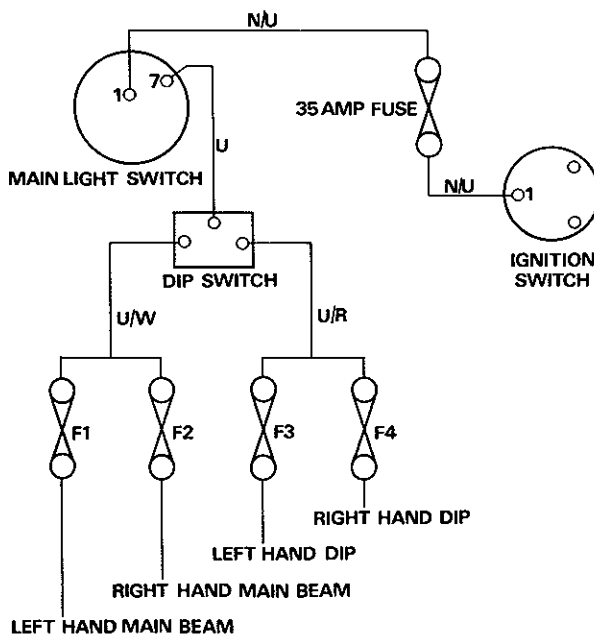

Fig. 4
12. The headlights are supplied from the battery via the ignition switch positions to the main light switch. The switch is of the on/off type, and it makes contacts 1 and 7 on the switch. The supply passes through a dipswitch for main beam or dip, as selected by the operator by means of the control on the instrument panel. A fuse is located between the ignition switch position 1 and the main light switch position 1. The circuit is shown in fig. 4, and it can be seen that each light is protected by fuses 1, 2, 3 and 4.